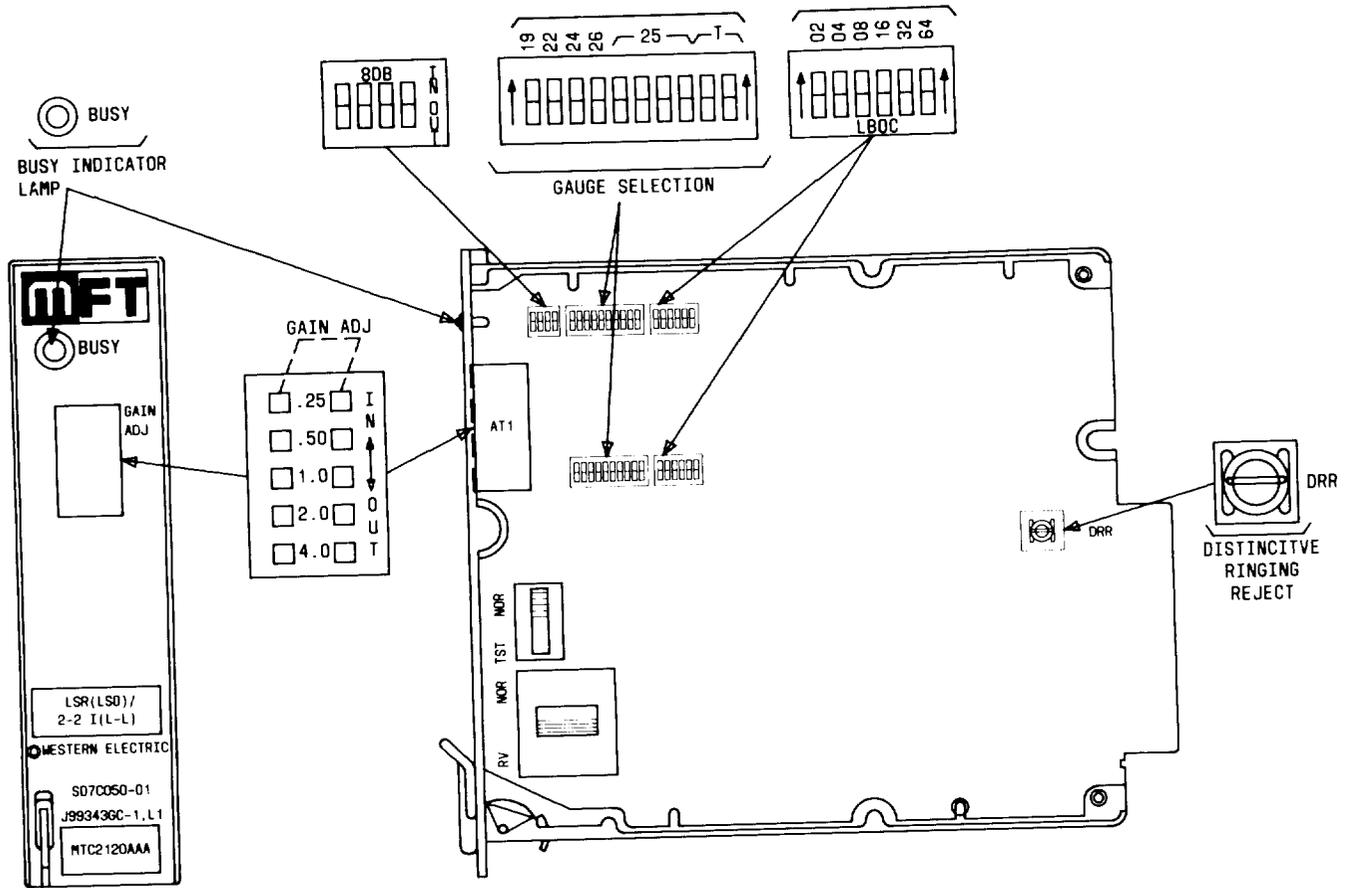
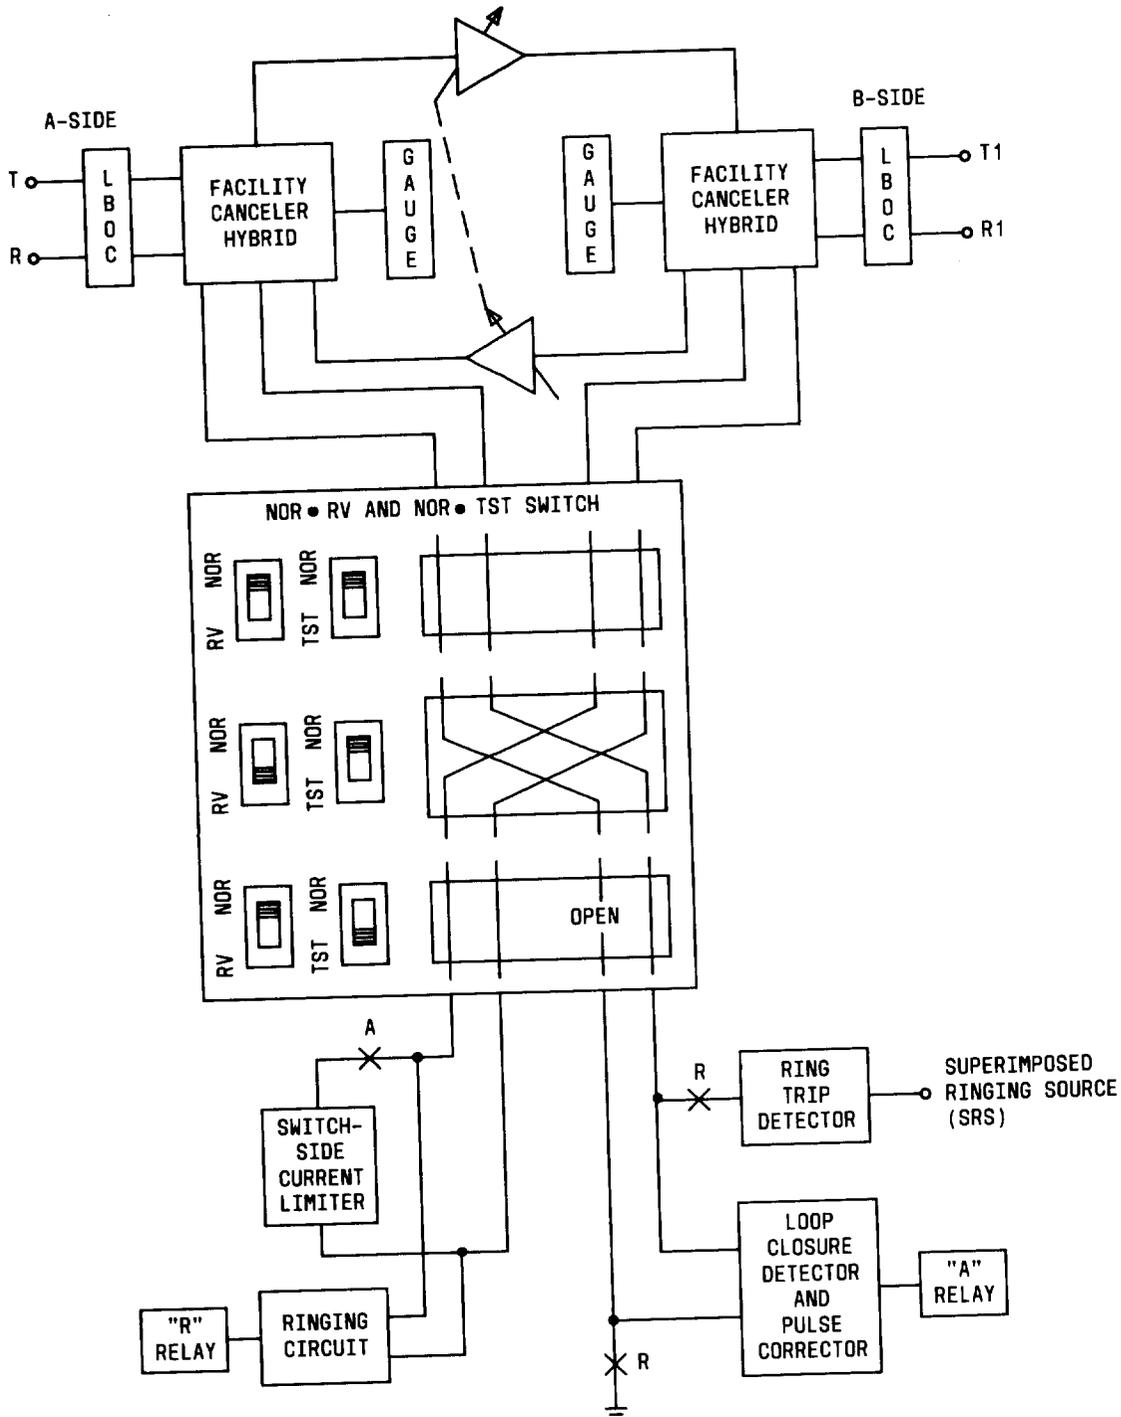

Fig. 1 — Pictorial of J99343GC Combined Function Unit
Fig. 2—Block Diagram of J99343GC Combined Function Unit
2.01 The J99343GC is shown in Fig. 1. It provides gain, equalization, and dc range extension on 2-wire circuits between loaded facilities. Figure 2 shows a block diagram of this unit.
2.10 The rocker-type switches for a particular function, which are described in the following paragraphs, are operated when depressed toward the respective designation. The sum of the values of the switches operated is the setting for that function. The unit controls are illustrated in Fig. 1.
2.15 NOR·RV: This switch is used to establish a signaling mode of either normal or reverse. Figure 2 gives the required switch positions to achieve a prescribed mode. This switch only affects the dc path to the signaling section.